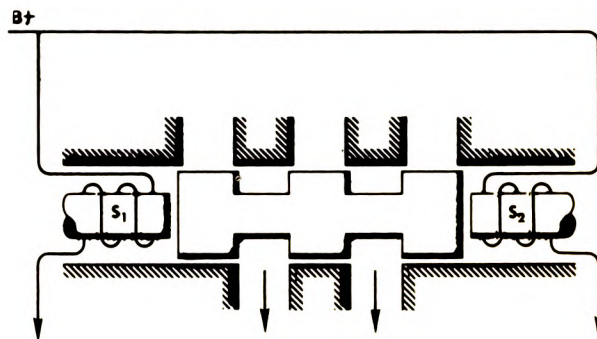

Figure 4D.—Double acting solenoid.
42. Under which of the following conditions will the transfer valve shown in figure 4D be displaced to the right?